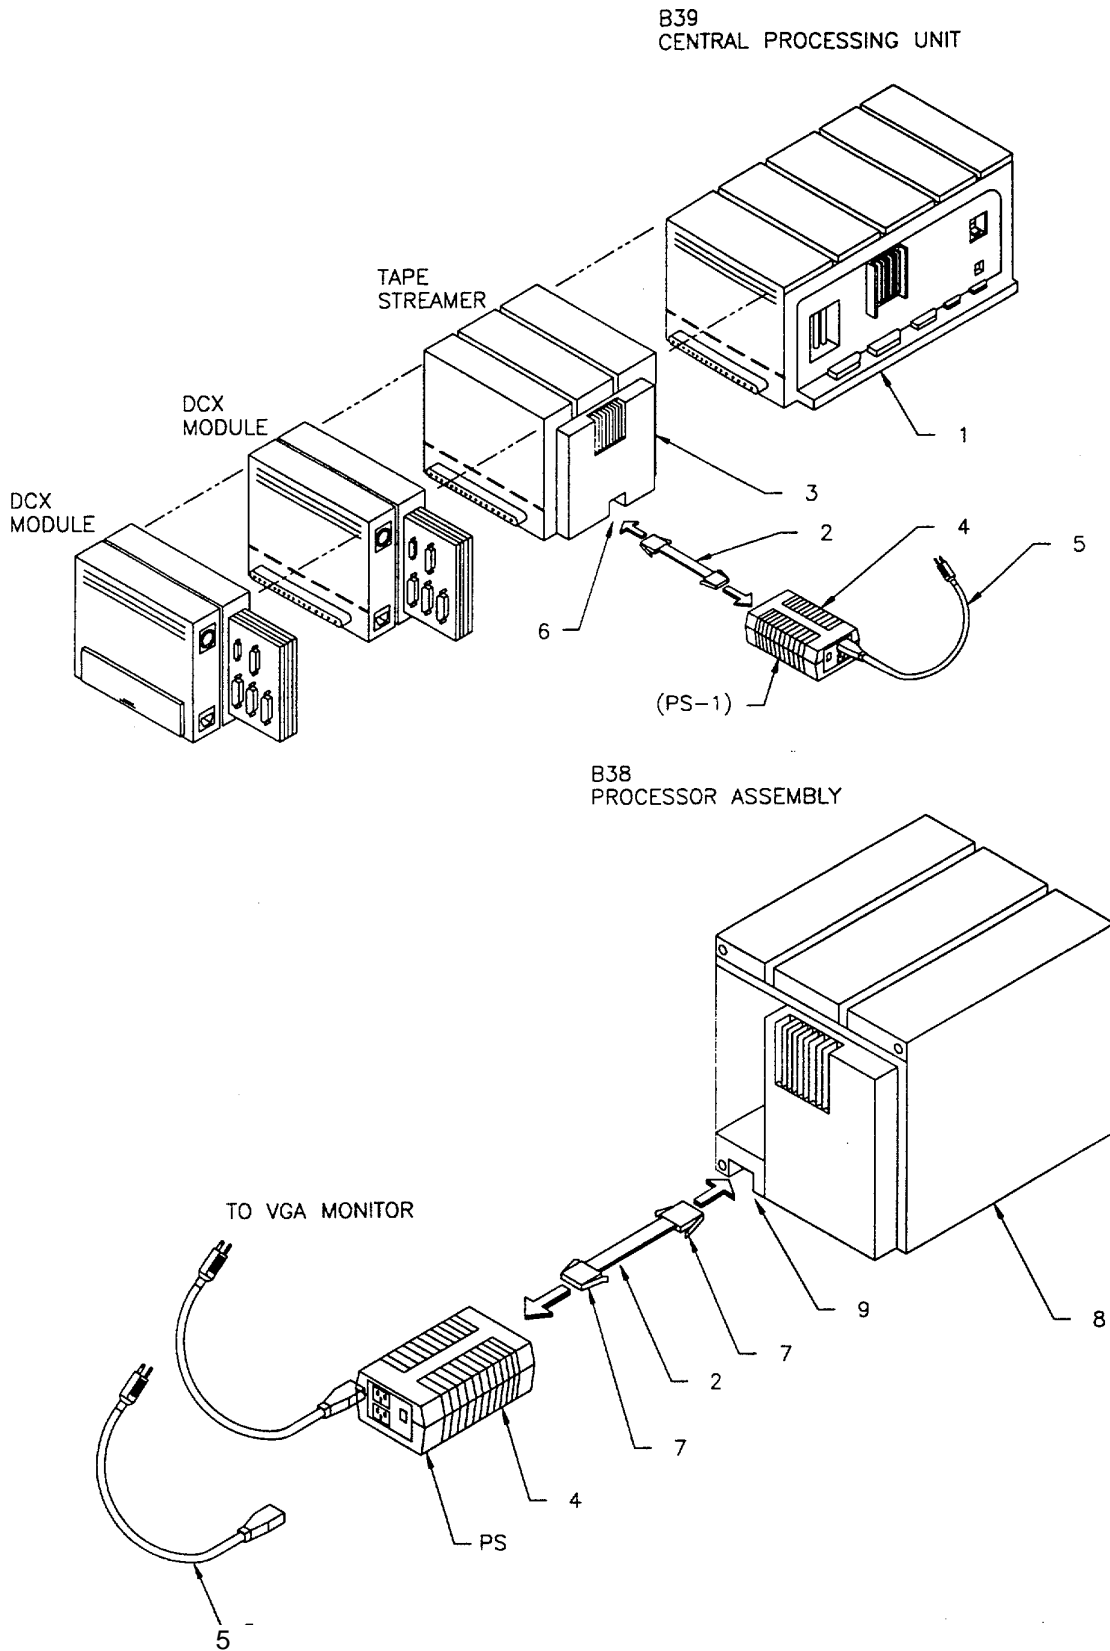

Figure 3-28. B39 or B38 Power Modules
**3-13. REPLACE POWER MODULE(S). (Figure 3-28).**
- (1) Connect dc power cord(s) to power module block (4) and to tape streamer (3) or B38 processor assembly (8) by gently pushing cable connectors (7) into power block (4) and connector (6) or (9).
- (2) Connect ac power cord (5) to power module (4).
**3-14. REPLACE POWER CABLE, 36 VDC. (Figure 3-28).**